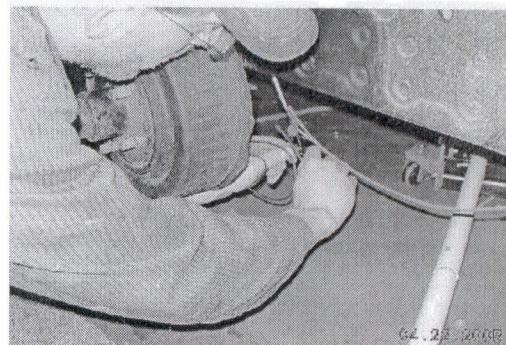

Figure 2
- Step 2 Disconnect the brake wires for the axle from the trailer wiring harness that runs along the inside of the frame on the off door side of the vehicle. Note: Do not disconnect the wires at the back of the brake assembly. See Figure 2.